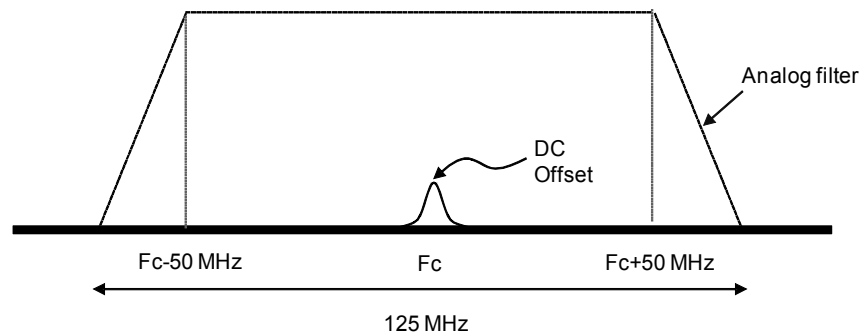

Figure 3: DC Offset with Amplitude Roll-Off at  $\pm 50$  MHz
The WSA5000's WB ADC sampling rate is 125 MSa/s, intermediate frequency (IF) is 0 and the entire IF bandwidth is 125 MHz. The analog filter results in an amplitude roll-off at approximately  $\pm 50$  MHz around the center frequency  $F_c$ , as illustrated in Figure 3.